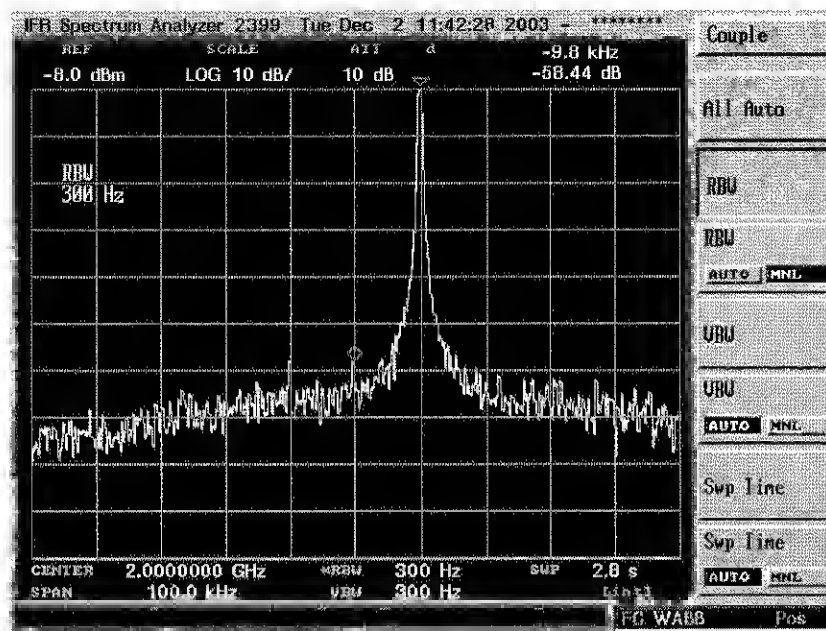

Fig. 6-7 Spectrum analyzer display showing carrier leakage measurement
- 8 The trace on the spectrum analyzer should appear as shown in Fig. 6-7.
- 9 Using the spectrum analyzer's Marker Delta facility, measure the level of the suppressed carrier leak relative to the USB as shown in Fig. 6-7.